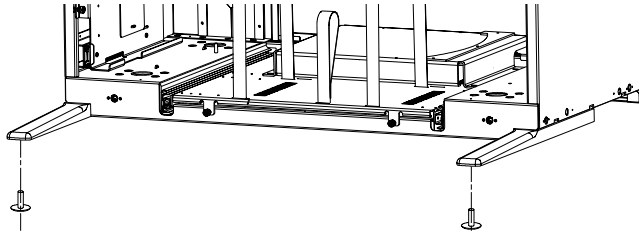

Figure 1-68 Console Stabilizer Pads
- 9.) Attach the two pads to the console stabilizers (see Figure 1-68).